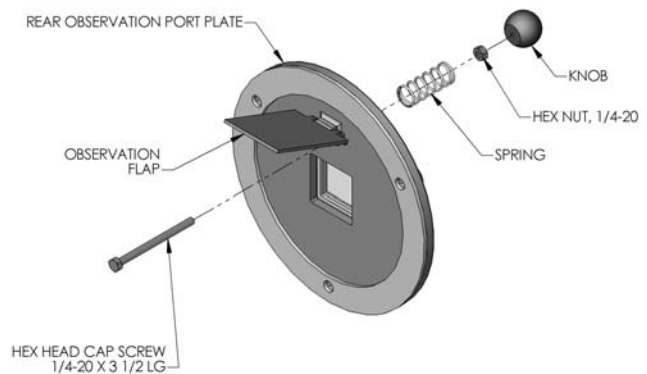

Figure 2.8: Rear Observation Port Assembly
For boiler Models CC-07 through CC-12 assemble the rear Observation Plate and install as shown in Figure 2.8.
1. Assemble Rear Observation Port as shown in Figure 2.8: